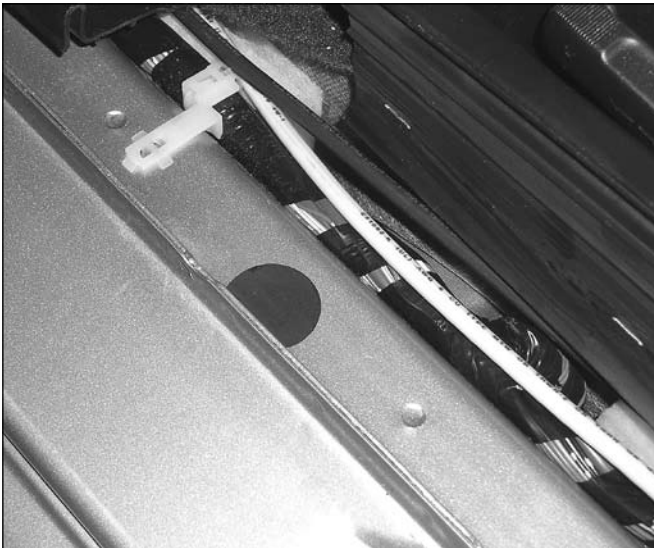

Fig 29.20 — Most vehicles have wiring troughs hidden behind interior body panels.
- Wiring needs to be neat and tidy to avoid interaction with passengers and mechanical devices. This means excess wiring should be shortened and/or bundled with appropriate wire ties. **Fig 29.20** shows a typical vehicle wiring trough.